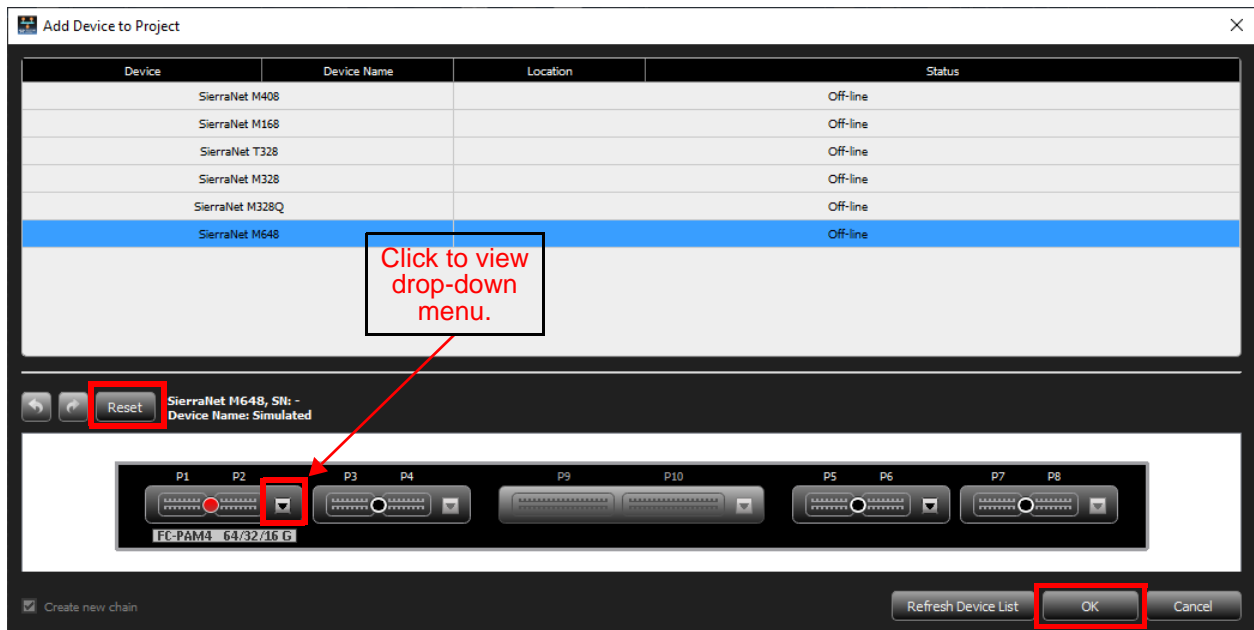

Figure 8.2: Add Device to Project
2. Select **File** → **New Project**. See Figure 8.2.